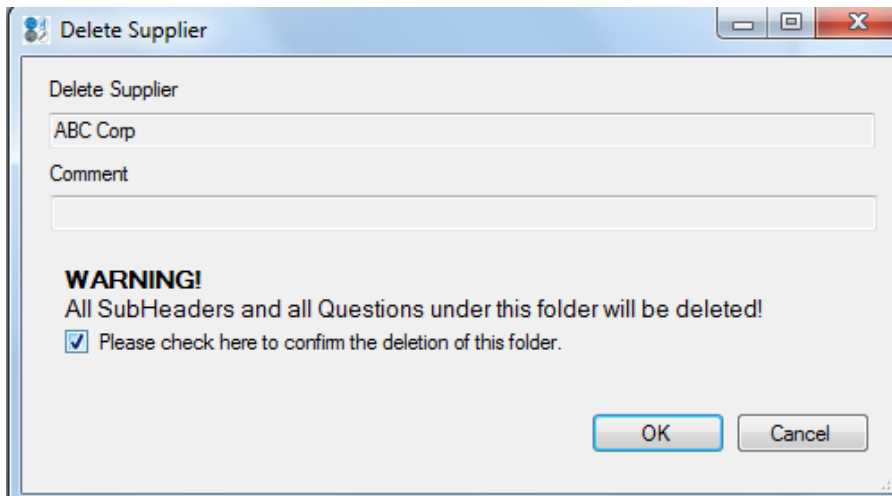

Figure 67: Delete Supplier Confirmation
Step 4: Select either “Yes” or “No” to answer Question 2c (Figure 67). Failure to do so will trigger a warning pop-up box to appear and the FSPB tool will not proceed to the next question until the missing information is entered.